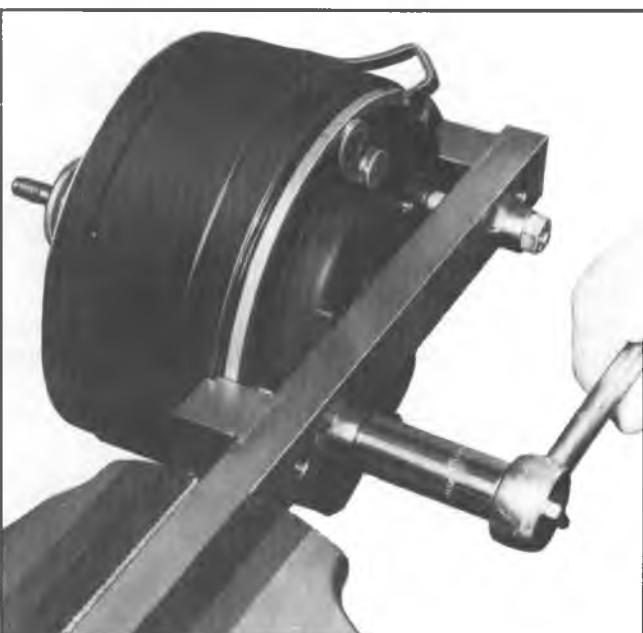

Fig. 91--Removing Shell Assembly
2. Remove compressor holding fixture J-25008-1 and reverse holding fixture step block protrusions engaging compressor shell. Install medium length bolts through holding fixture and thread them into compressor cylinder until the step of the fixture protrusions contact compressor shell, finger tight, both sides (Fig. 91). Check to be sure the step protrusions do not overlap the cylinder but will pass both sides.
4. Place compressor shell on cylinder and rotate retaining strap to its original location (Fig. 91).